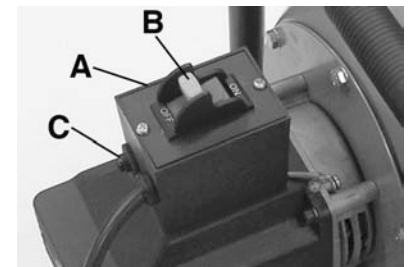

Figure 5
The dust collector can be turned on by flipping the switch (A) Fig.5 into the "on" position. Flip to the "off" position to turn dust collector off. There is a removable safety key (B) in the tip of the switch that can be removed when in the "off" position. When the key has been removed the dust collector can't be used.
This dust collector comes with a circuit breaker reset button (C) Fig.5, if the motor overloads, the circuit breaker will be tripped and the motor will stop. Turn the switch to the "off" position and let the motor cool down for 15 minutes. Press the reset button and restart the motor.